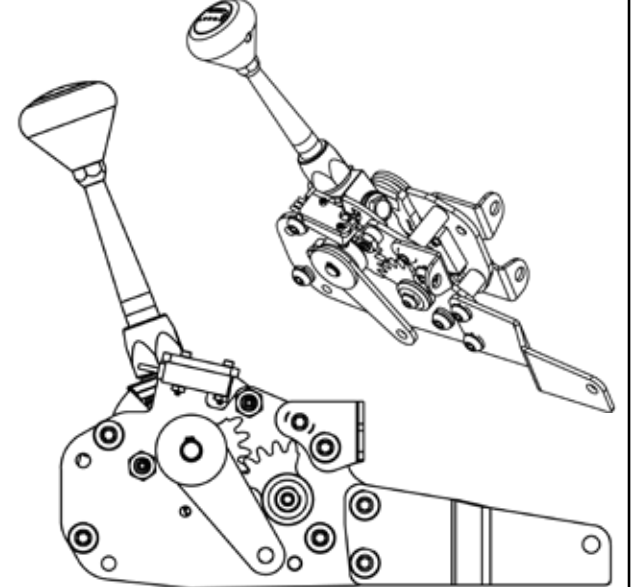

Fig. 2
Step 3: As mentioned earlier, the shifter mounting brackets are installed at the factory on the bottom of the shifter. If you wish to mount the shifter to the underside of a console or in the dashboard, you can reposition the brackets as needed. Remove both brackets from one side of the shifter assembly. **DO NOT REMOVE ALL FOUR BRACKETS AT THE SAME TIME!** There are several different mounting possibilities for the brackets. **Fig. 2** Position them how you want and reinstall the bolts, making sure that the longer bolts go into the threaded spacers that hold the shifter together.